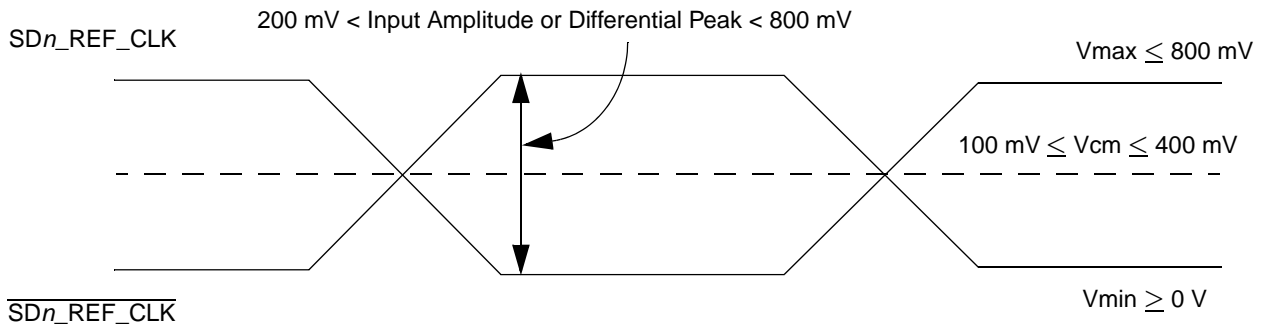

Figure 45. Differential Reference Clock Input DC Requirements (External DC-Coupled)
- For **external DC-coupled** connection, as described in Section 2.21.2.1, “SerDes Reference Clock Receiver Characteristics,” the maximum average current requirements sets the requirement for average voltage (common mode voltage) to be between 100 mV and 400 mV. Figure 45 shows the SerDes reference clock input requirement for DC-coupled connection scheme.